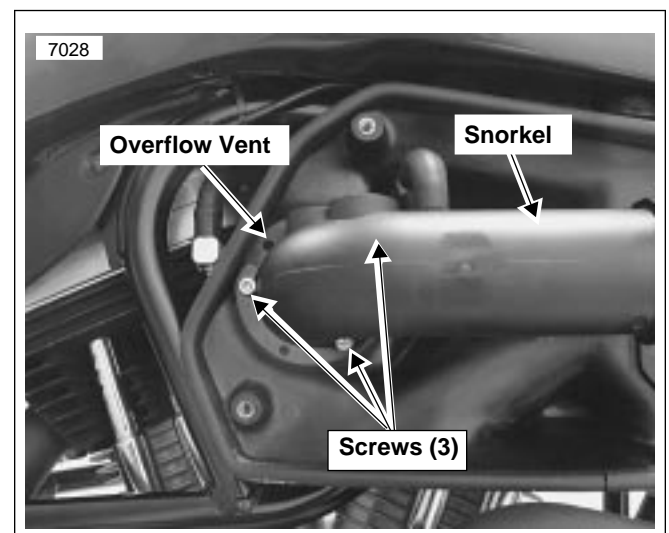

Figure 5. 1999 M2 Cyclone Snorkel Inspection
14. **1999 M2 Cyclone Models Only:** See Figure 5. Remove four screws, nylon washers and air cleaner cover. Inspect snorkel where it mounts to carburetor.